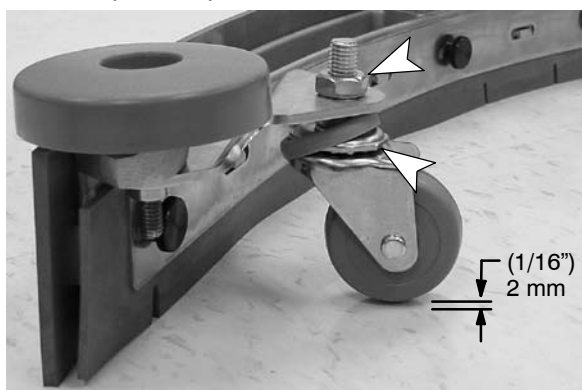

FIG. 47
1. To check the squeegee assembly for proper adjustment, remove the squeegee assembly from the machine and place it on a level surface. Measure the distance between the caster and the surface. It should measure approximately 1/16 in / 2mm (Figure 47).
2. To adjust the caster height, loosen the top nut and remove the plastic bearing cover to access the adjustment nut. Turn the adjustment nut until properly adjusted (Figure 47). After adjusting, tighten the top nut and replace the plastic bearing cover. Repeat step for the other caster.